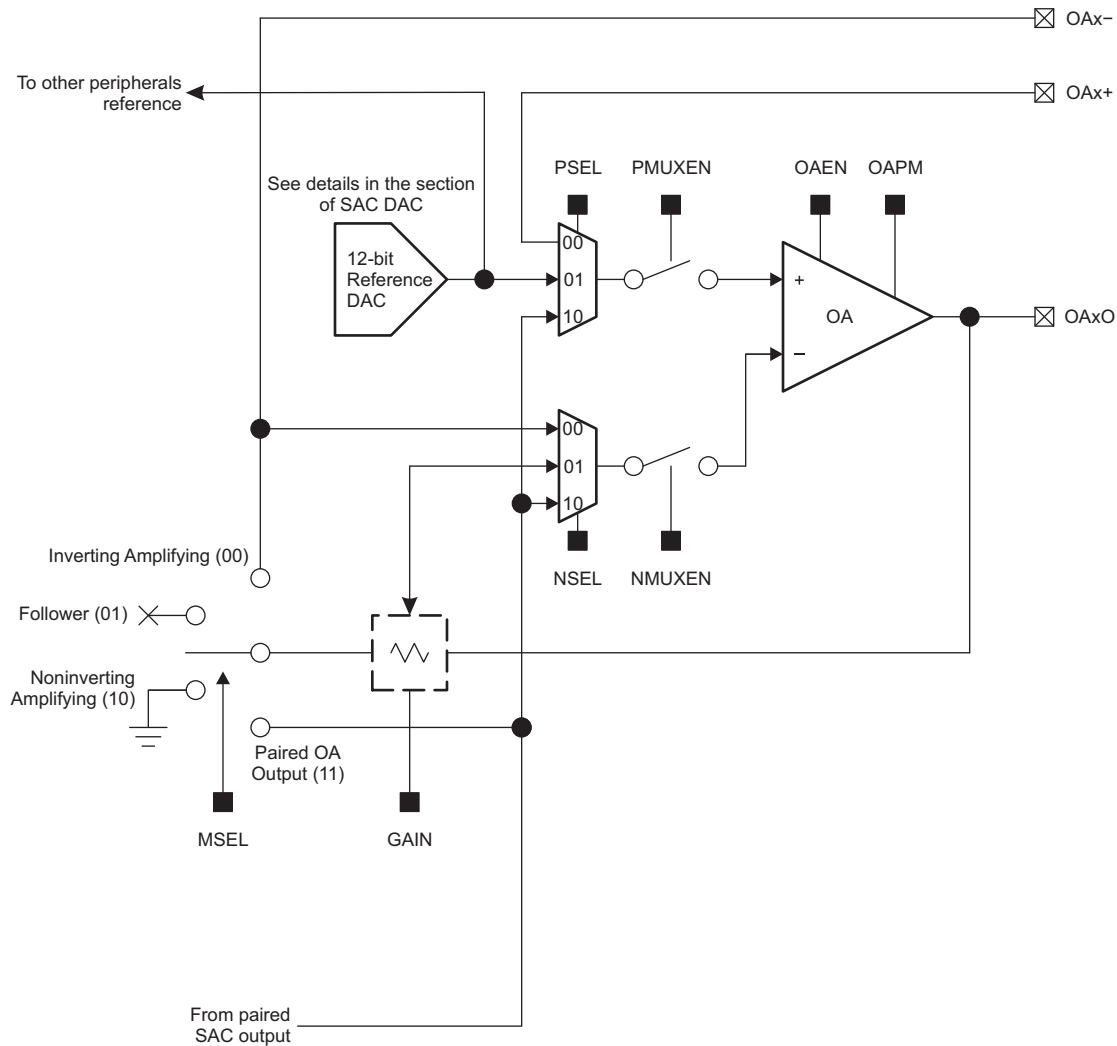

Figure 1. Smart Analog Combo Block Diagram
Figure 1 shows the block diagram of SAC-L3 module. The integrated amplifier supports rail-to-rail input and rail-to-rail output. The two internal multiplexers support multiple input selections for the operational amplifier (OA). The op-amp power mode (OAPM) control bit selects the OA power mode. In high-power mode, the OA provides higher gain bandwidth and slew rate. If lower power consumption is more critical in the application, select the OA low-power mode by setting the OAPM bit to 1. The feedback resistance ladder connects the OA output with the negative input as the feedback routing. With the feedback routing, the OA supports both inverting PGA mode and noninverting PGA mode. A 12-bit DAC is also integrated in the SAC-L3 module. The DAC can be used to generate a bias voltage to the OA or can work with OA to drive a waveform output on the pad.